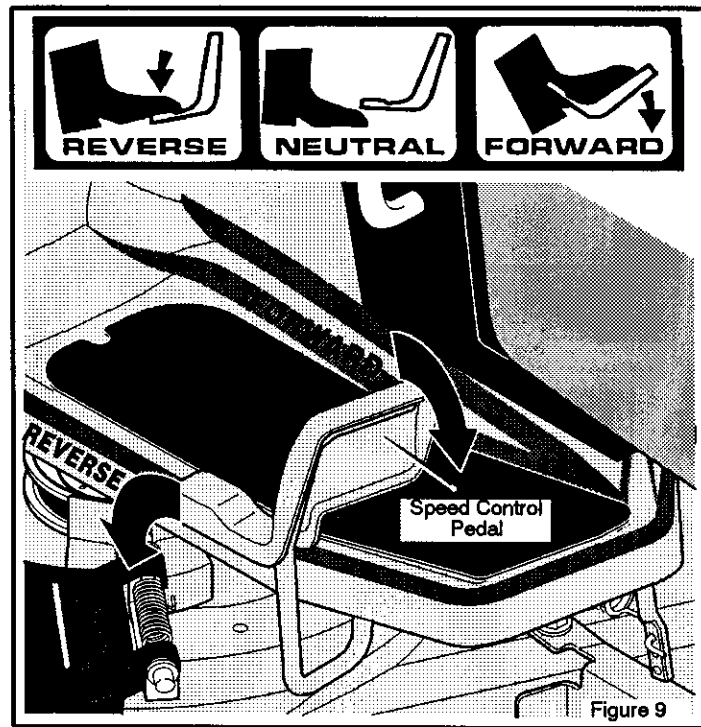

Figure 9
4. Slowly push the **speed control pedal** forward to the desired speed (Figure 9).